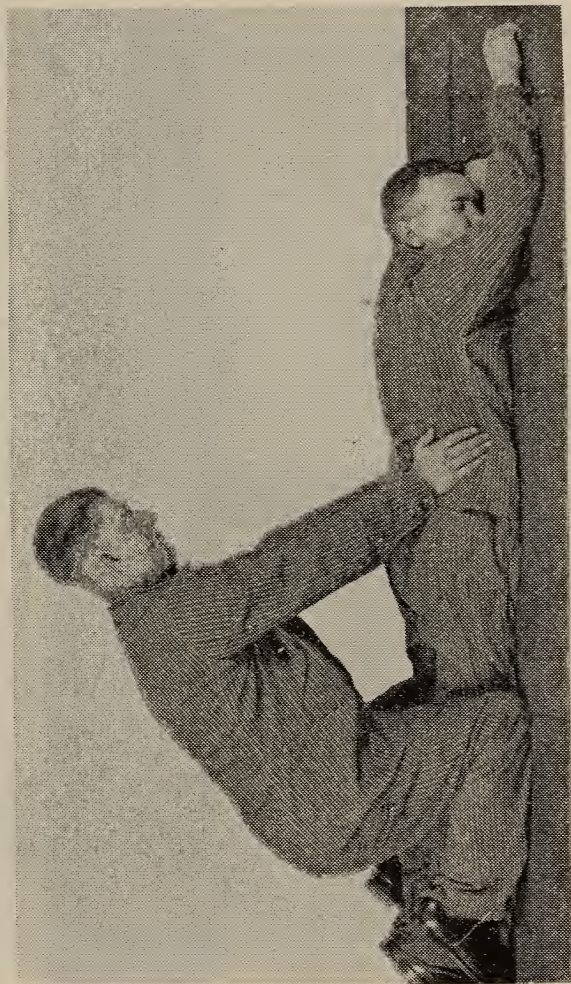

FIGURE 68.—Artificial respiration. 1. Straddle the patient's thighs, with your hands on his back and your little fingers near his short ribs.
12. Q. *Describe the position of the operator at the beginning of the Schaefer method of artificial respiration. (See fig. 68.)*